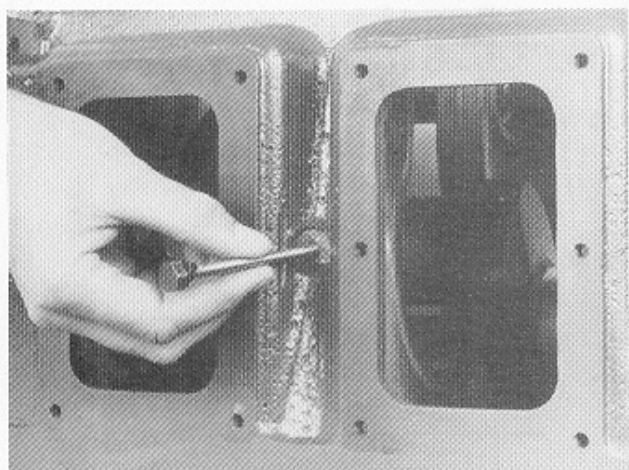

Figure 5.19 Removing the Intermediate Bearing Housing Locking Screw (PH2)
- (5) On the PH2 engine remove the intermediate main bearing housing locking screw (Figure 5.19) holding the housing in position.
- (6) Mark the balance weights to identify the assembly positions. Unscrew the bolts and remove the balance weights and washers.
- (7) Remove the bolts securing the flywheel end main bearing housing, and withdraw the housing.